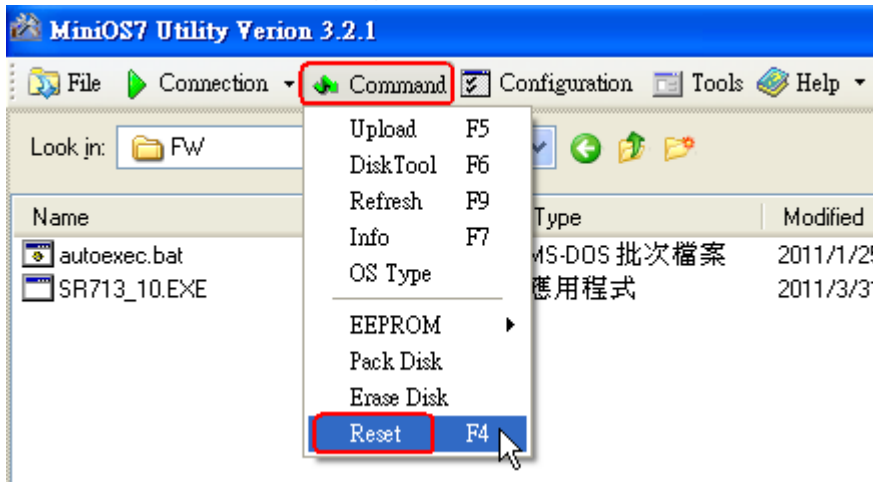

Fig 9.1-8 "Reset" function of SAR-713
(4) After firmware upload finished, please reboot SAR-713 to complete the firmware update process. Users can also click “Reset” button to reboot SAR-713 like Fig 9.1-8.